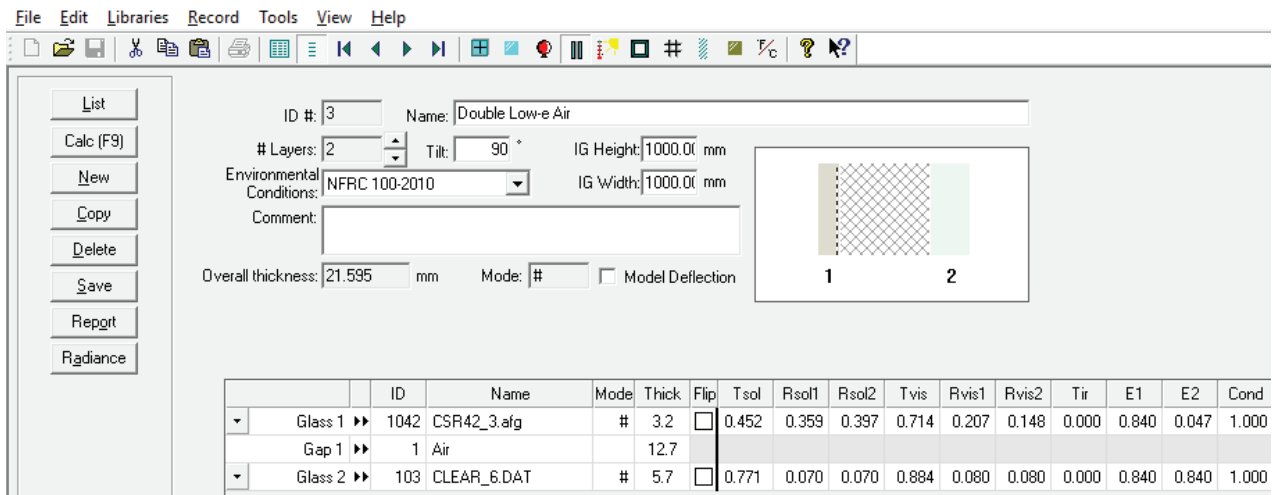

Figure 9-253: Customize New Glazing System
- Choose Detailed View to edit the new Glazing System (see Figure 9-253)